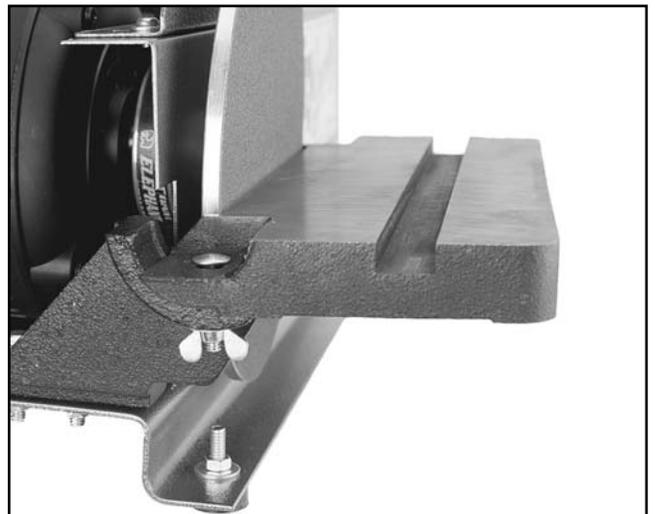

Figure 12. Disc table attachment.
13. Secure the Disc Table to its support bracket using the two (2) $\frac{1}{4}$ " - 20 x $1\frac{1}{4}$ " carriage bolts, two (2) $\frac{1}{4}$ " flat washers and two (2) $\frac{1}{4}$ " - 20 wing nuts. **See Figure 12.**